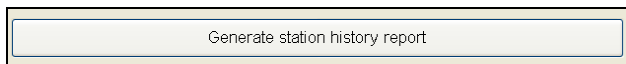

Figure 21.0.8
- Click on the **Generate station history report** button to view the “Station History” report (Figure 21.0.8).